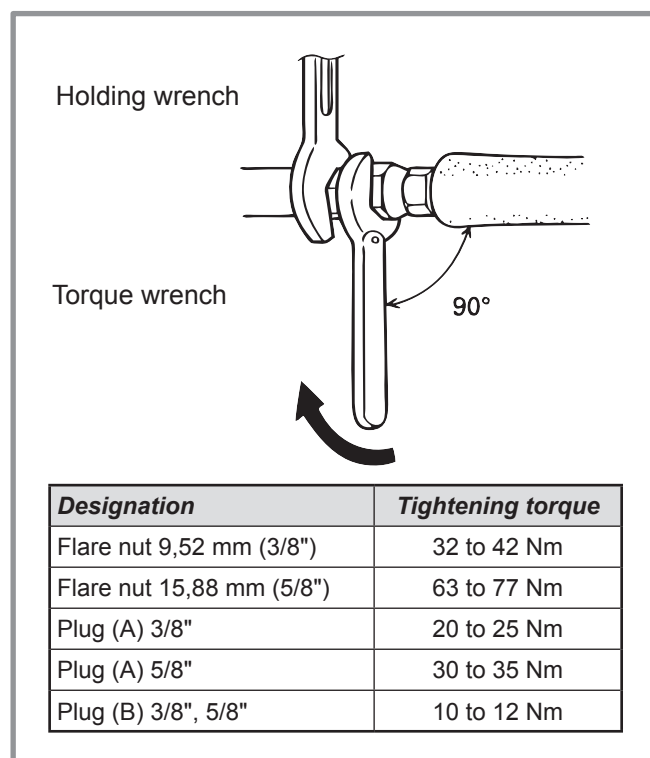

figure 18 - Tightening torque
- Refit the 2 original caps (be sure they are clean) and tighten them to the recommended tightening torque (figure 18, page 17). The sealing is performed in the caps only metal to metal.